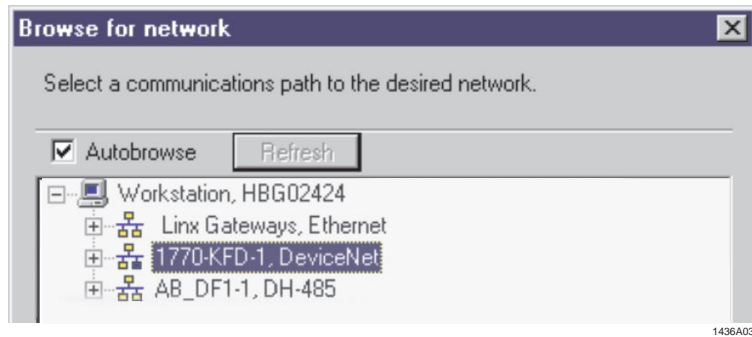

Figure 3-3. RSNetWorx™ Browse for network Window
1. From the RSNNetWorx™ menu bar, select "Network" then "Online". From the "Online" window the appropriate interface tool driver can be selected. See Figure 3-3.
1. From the RSNetWorx™ menu bar, select "Network" then choose "Online". From the "Online" window (refer to figure 3-3), select the appropriate interface tool driver.